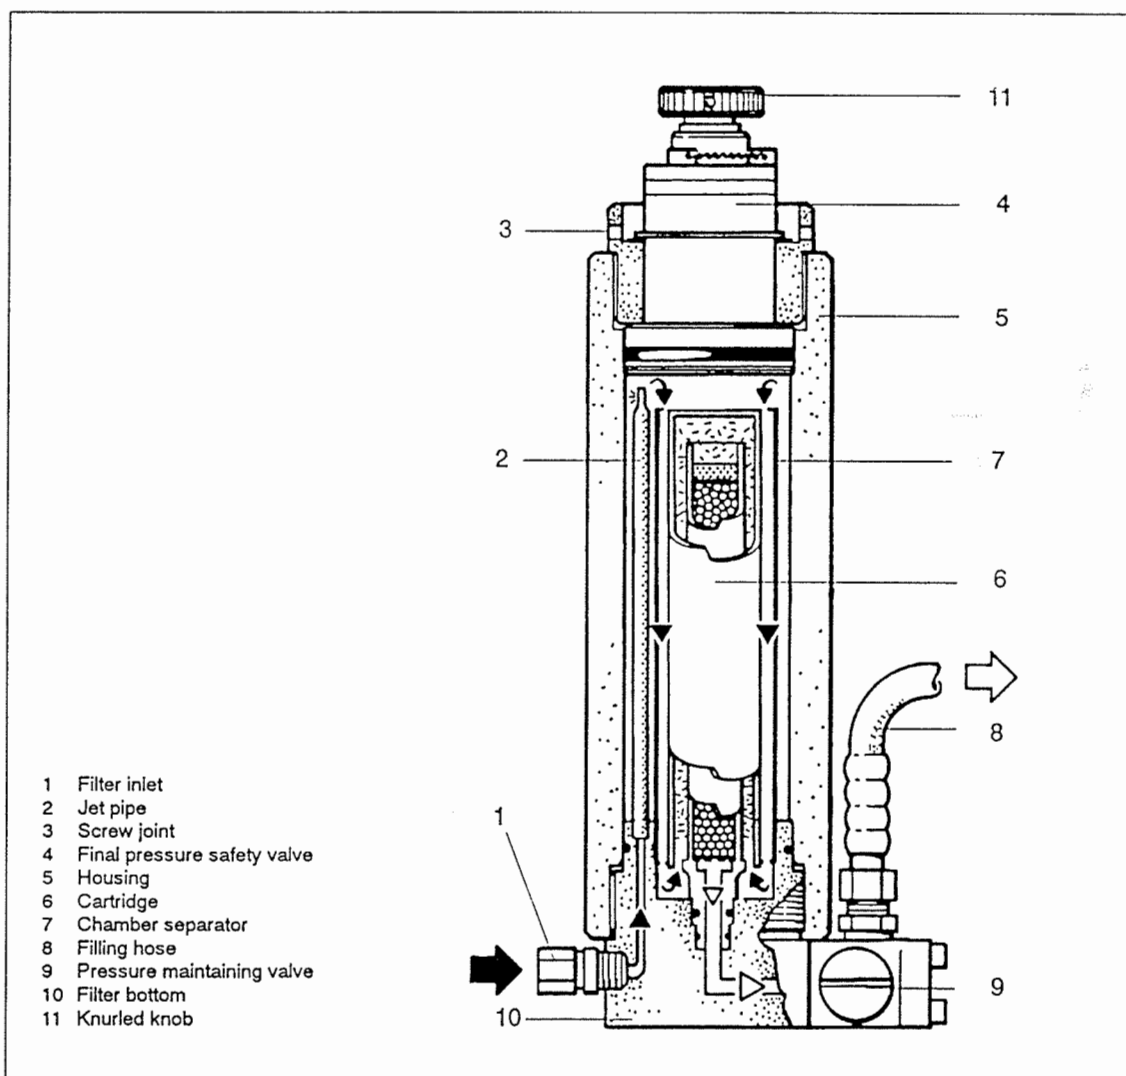

Fig. 8 Filter system P21
Air leaving final stage is cooled in the after-cooler to approx. 10 – 15 °C (18 – 27 °F) above ambient temperature and then enters filter system P21 with TRIPLEX longlife cartridge (Fig. 8). The filter assembly consists of separator and cartridge chamber. In the separator surrounding the cartridge chamber liquid oil and water particles are reliably separated from the compressed medium by a pipe nozzle.
- Unscrew knurled nut (3, Fig. 8) on top of the filter.